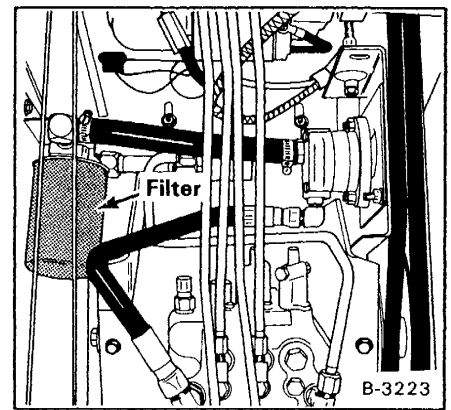

Fig. 1-28a Hydraulic Filter (Current)
On 310 loaders with serial number 13696 and above or 310 loaders with conversion kit on the hydraulic line, the fluid is cleaned by a 33 micron filter which is shown in (Fig. 1-28a).
- (1) Remove the hydraulic filter element using a filter wrench (Fig. 1-28) for 310 loaders with serial number 13695 and below. The 310 loader with serial number 13696 and above or 310 loaders with the conversion kit on the hydraulic line refer to (Fig. 1-28a).
- (2) Clean the base of the filter mounting base.
- (3) Put oil on the rubber gasket of the filter element.
- (4) Install the filter element and tighten hand tight.
- (5) Start the engine. Check for leaks.